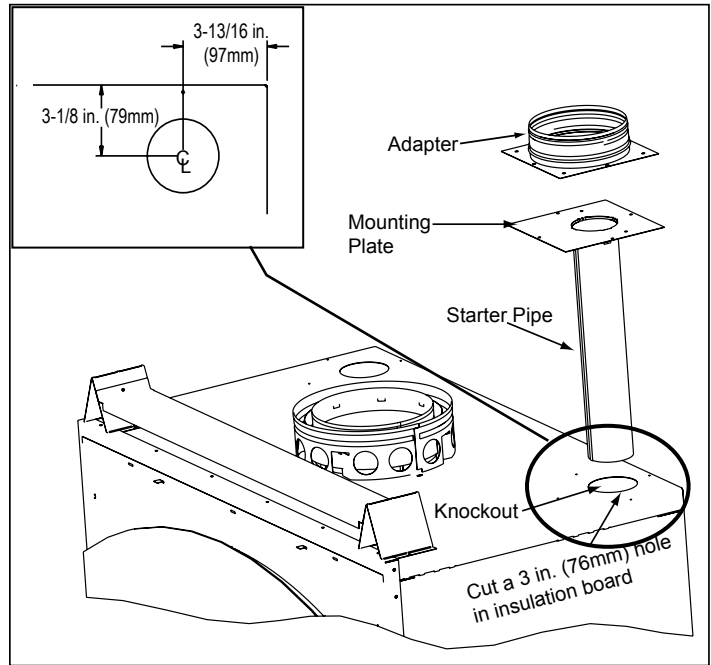

Figure 2
- 16" Snap Lock Starter pipe - cut to desired length (See Figure 2 on page 2).
1. Remove the knockout or cover plate from the top of the fireplace and discard it. See Figure 2.
2. Cut a 3" (76mm) hole in the insulation board as per the dimensions shown in Figure 2.